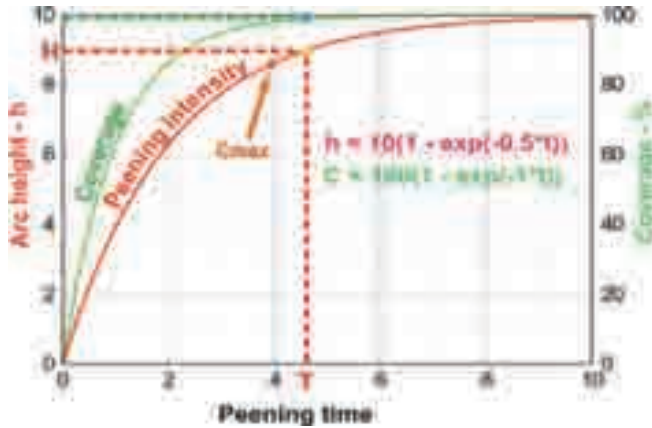

Fig.6. Comparison of Coverage and Peening Intensity curves for the same shot stream.
In fact the reverse is the case – which is paradoxical. The real situation is modeled in fig.6. At the “saturation point” the peening intensity is shown as H at a time T. At T the coverage is shown as being approximately 99%. Peening intensity at T is only 90% of its value at 2T when the deformed surface layer is approaching its maximum thickness. The coverage at 2T will be 99.9%.
For illustration purposes if $a = 10$ and $b = 0.5$ then equation (8) yields $h = 8.59$ at $t = 3.91$ as the point of maximum curvature. This point is shown in fig.6 as Cmax. It can be seen that the ‘conventional’ and ‘mathematical’ definitions for the knee location are close to one another.